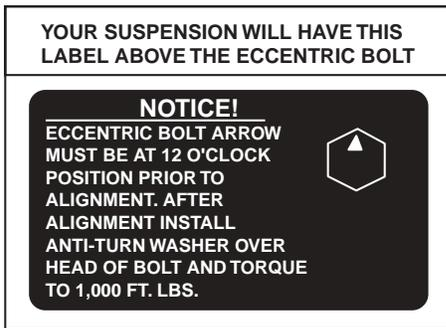

Figure 16. Hanger Sticker
B) Insure the lower beam assembly fits the axle with a weld root gap of 1/16" to 1/8" maximum between the welding wings or uprights as illustrated. (See Figure 16.)
The Monopivot 240 is equipped with an eccentric bolt in one or both hangers for simple, manual alignment of axles. (See Figure 16)